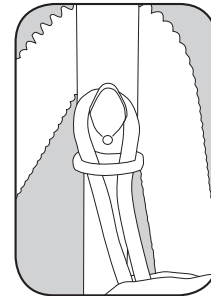

Fig. 4
- Pull down on the power cord to remove any slack (Fig. 4).